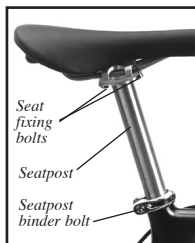

Figure 16- Seatpost parts
1. Loosen the seat fixing bolt (Figure 16) just far enough so the seat can be tilted fore and aft.